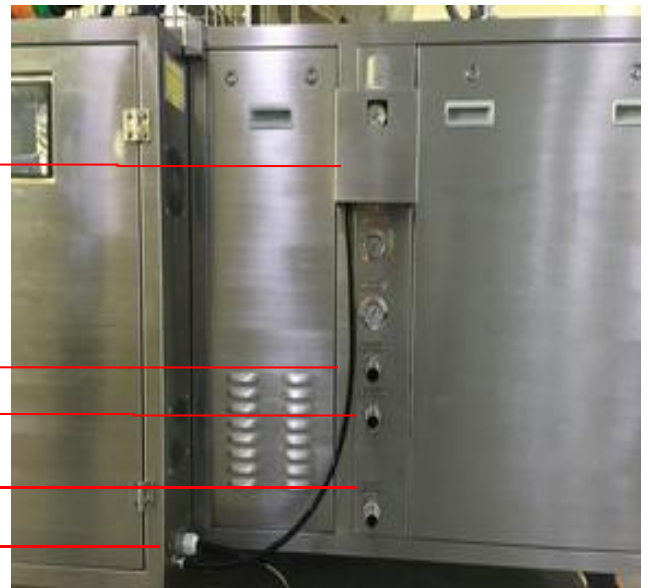

Figure 4-1 Machine connecting port
3) Water add pipe: This machine must connect 1 tap water inlet pipe(1" female coupling, water flow rate \geq 30L/Min, water pressure \leq 0.5Mpa, must have water pressure or it can not add water automatically. (Figure 4-1 water inlet pipe) .
4) Liquid and water drain pipe: This machine must connect 1" external discharge pipe, bear pressure \leq 0.4Mpa. (Figure 4-1 discharge pipe)